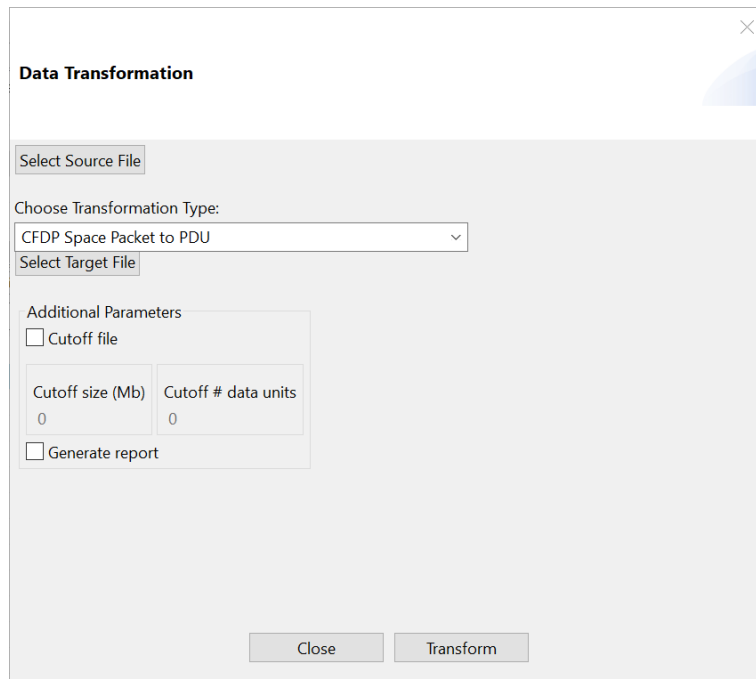

**Figure 41: Transformation Dialogs**
2. Select menu “Tools” → “Transform” (or click the “Transform” button in the toolbar), to show the transformation dialog (Figure 41). Depending on the type of file selected as source of transformation the dialog will request different transformation parameters.